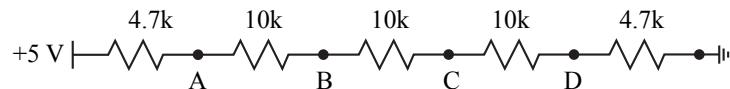

Figure 2.1: Resistor ladder example.
A resistor ladder is shown in Figure 2.1.
1. Using LTspice, layout the circuit in Figure 2.1 and run a DC operating point simulation to generate the node voltages at nodes A, B, C, and D. Table the node voltages.